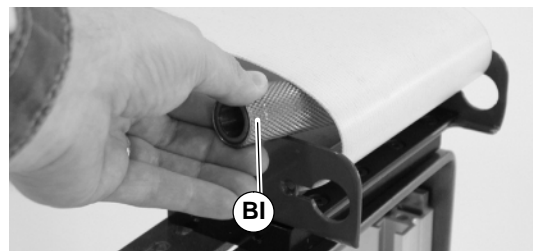

Figure 37
9. Remove pulley (BI of Figure 37).